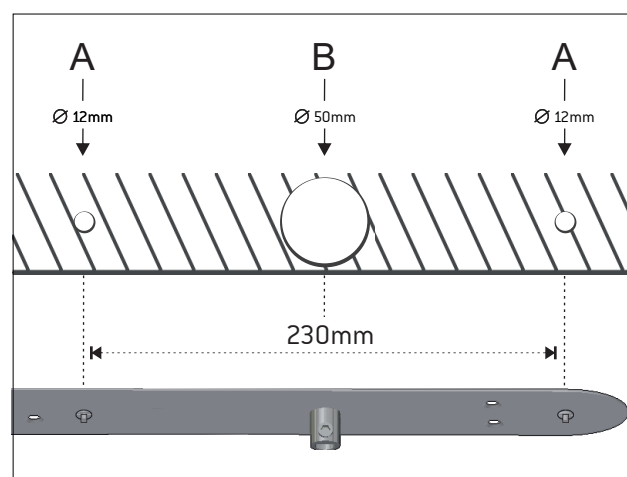

Figure 1
1 - Follow the same process for the two pendants keeping in mind the center of the mounting bracket: mark two spots (A) on the ceiling at a distance of 230mm between them and drill them with a diameter of 12mm. Right in the center mark a third point (B) and drill it with a diameter of 50mm. Repeat the process with the other pendant. **Figure 1**